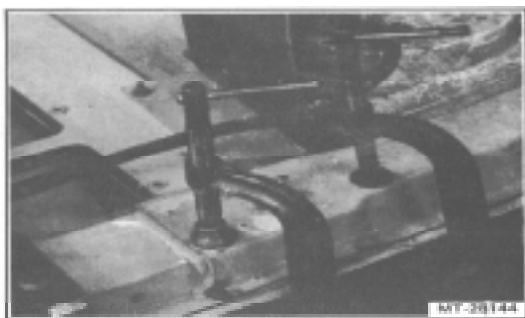

Figure 46. - Holding Panels In Place
6. Press panels together and use clamps or weights to hold panels in place (Figure 46).